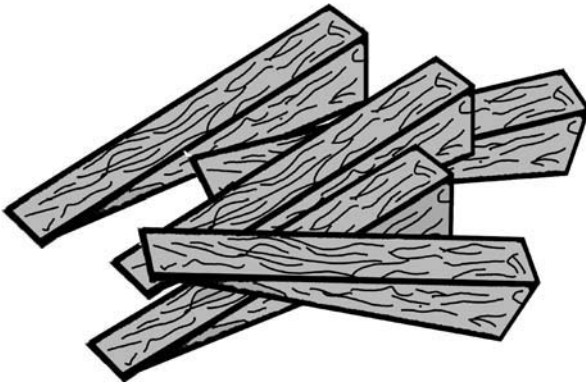

Figure D.21 Camera wedges.
- Camera wedges (see Figure D.21)